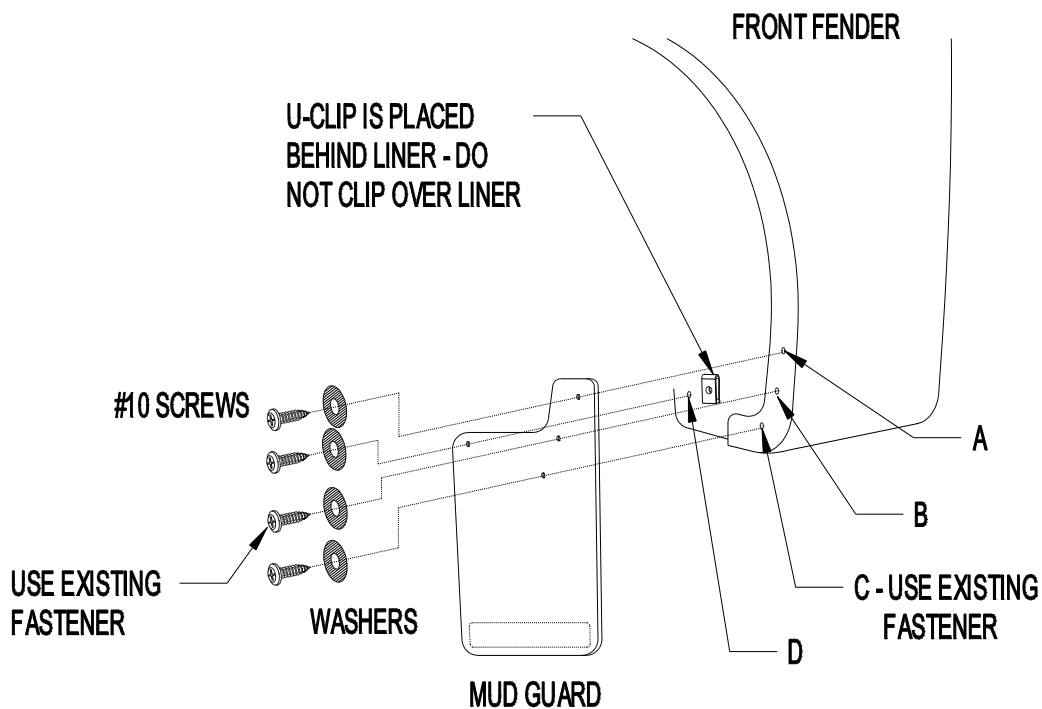

Figure 1
2. Remove existing fastener from location B (Fig. 1).